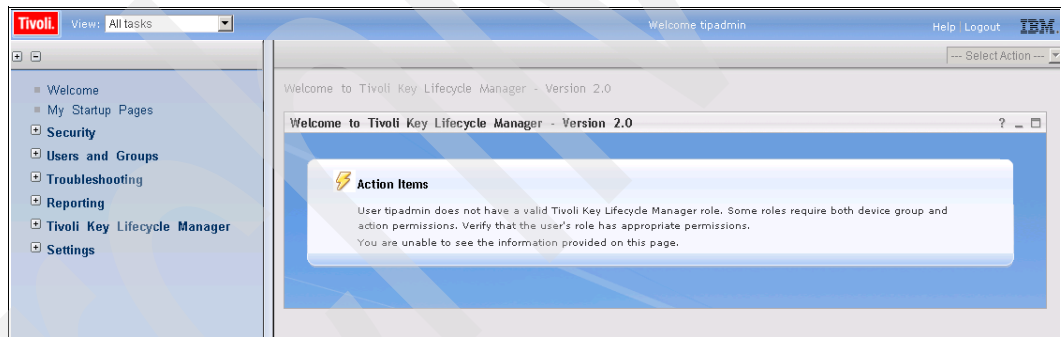

Figure 9-2 Welcome Panel
2. The welcome panel is displayed (Figure 9-2).